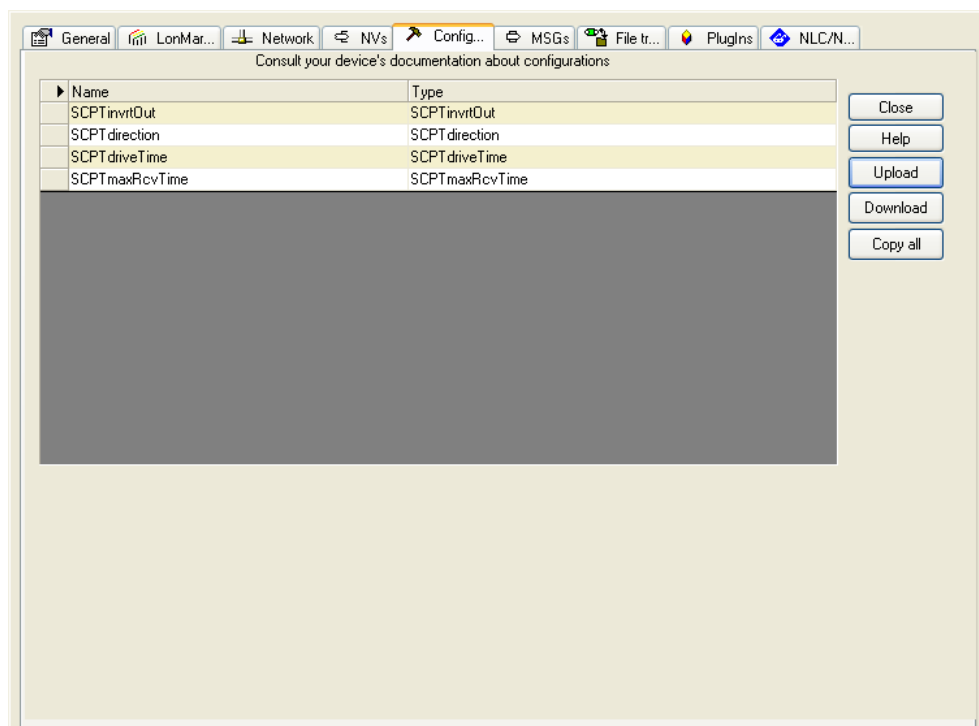

Figure 129: Configuration Tab for Configuration Properties in NL220.
2. Press the **Upload** button on the Configuration tab of the device properties (see Figure 129).